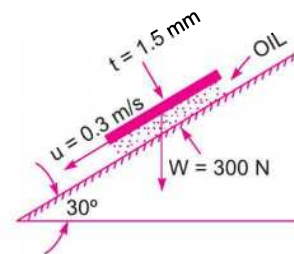

Fig. 1.4
**Problem 1.7** Calculate the dynamic viscosity of an oil, which is used for lubrication between a square plate of size 0.8 m x 0.8 m and an inclined plane with angle of inclination 30° as shown in Fig. 1.4. The weight of the square plate is 300 N and it slides down the inclined plane with a uniform velocity of 0.3 m/s. The thickness of oil film is 1.5 mm.